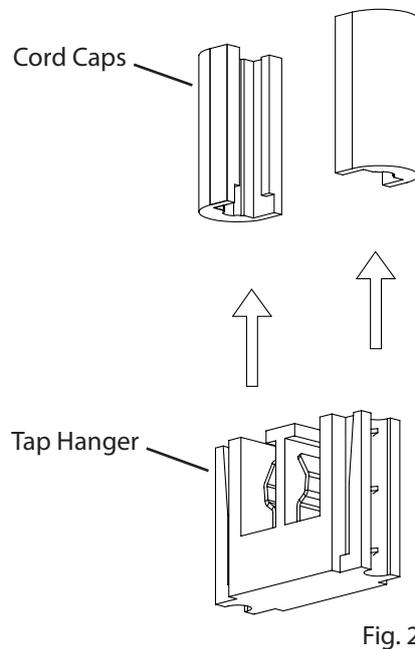

Fig. 2
1. Install the **Double Cord (or Rod) Power Feed Hanger** onto the **Power Bar**: press down firmly on the top of the Power Bar, while pressing up on the bottom of the Hanger, until the Power Bar clicks into place (Fig. 2).
3. Remove **Cord Caps** from **Tap Hanger** by sliding them up and off the sides of the **Tap Hanger** (Fig. 2).
2. Pass the **Ceiling Hanger Rod/Cable** through the **Power Bar**, then through the center hole of the **Cover**, making sure the countersunk holes on the Cover are facing up. Attach the **Cover** to the **Hanger** using the two small **Phillips Screws** (Fig. 2).